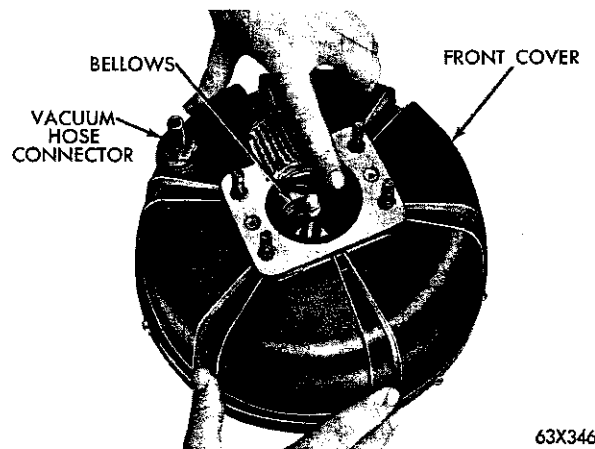
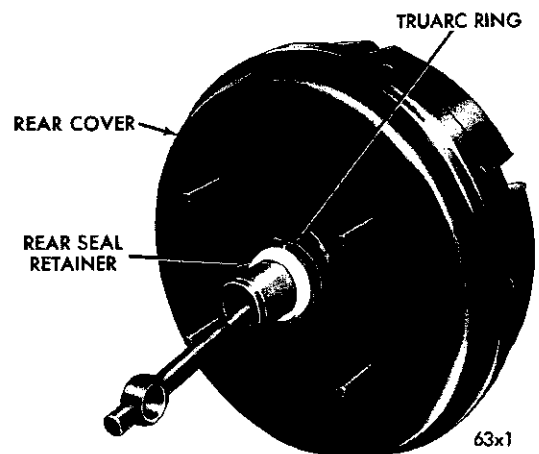

Fig. 25—Unseating the Bellows Seal
Fig. 26—Rear Seal Retainer
(1) Remove the four master cylinder attaching nuts and remove the master cylinder.
(2) Scribe an aligning mark across the joint of the front and rear portions of the booster assembly. This will insure correct alignment during reassembly.
(3) Remove the dust boot from the operating rod.
(4) Remove the two filter cover retaining screws.
(5) Remove the filter cover and filter.
(6) Working from the front of the unit, push the outer lip of the bellows assembly into the vacuum chamber (Fig. 25).
(7) Remove the ten front and rear housing attaching screws.
(8) Using a plastic or rubber hammer tap the outside edge of the rear vacuum housing and separate the housings.
(9) Remove the large snap ring from the rear seal retainer, (Fig. 26) and remove the diaphragm, valve housing assembly and rear seal from the rear housing.
(10) Using a screw driver pry out the large retain-
- (1) Install the "O" ring on the outside diameter of the valve body.
- (2) Install the two "O" rings, and seal on the plunger assembly.
- (3) Install the cushion ring on the plunger assembly.
- (4) Install the rear seal into the rear seal retainer with the lip of the seal toward the small end of the retainer.
- (5) Install the "O" ring on the outside diameter of the rear seal retainer.
- (6) Insert the rear seal retainer assembly into the hub of the rear cover.
- (7) Holding the seal retainer in place invert the cover over a large socket to support the seal retainer in place.
- (8) Apply downward pressure on the rear cover and install the retainer ring (Fig. 26).
- (9) Install the plunger assembly into the valve body.
- (10) Install the valve into the valve body with the rubber insert contacting the valve seat.
- (11) Install the load ring onto the plunger with the concave face out.
- (12) Press downward on the valve body and insert